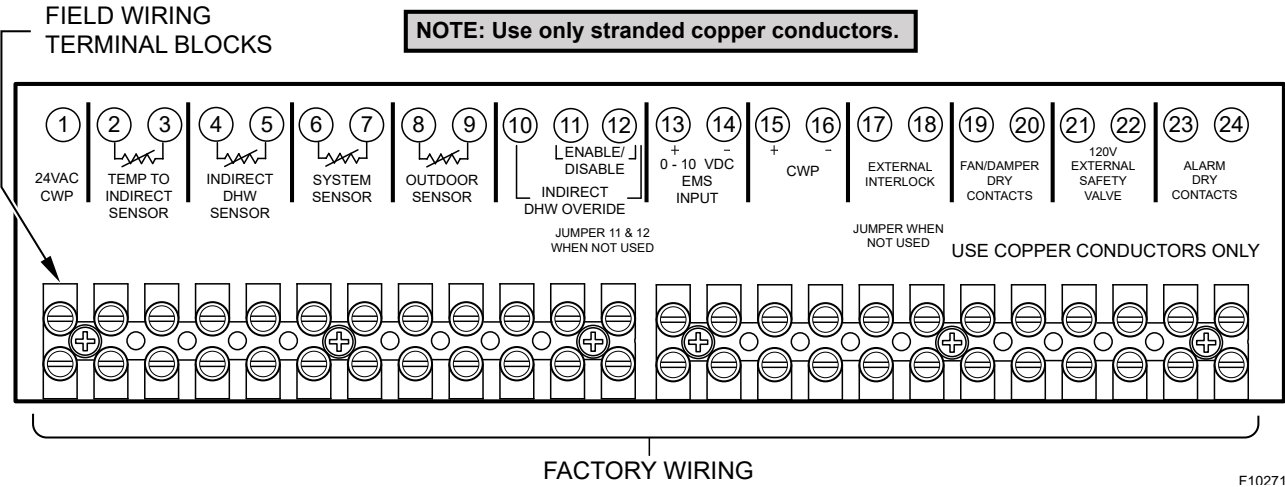

Figure 34. Low-Voltage Field Wiring
2. To enable this remote control function, set DIP switch 5 to the UP position on the PIM. DIP switch 5 Toggles between an EMS (UP) signal or a demand signal from the VERSA (DOWN). DIP switch 2 on the PIM toggles between a Direct Drive (UP) input and a Target Temperature (DOWN) setpoint.
4. Connect an Energy Management system or other auxiliary control signal to the terminals marked 0-10V (+/-) on the field wiring terminals. See **Figure 34**. Caution should be used to ensure that the +0/-10V connection does not create a short to ground.
Connect the Enable/Disable (terminals 11, 12) wiring to the field wiring terminals as shown in **Figure 34** and in place of the factory installed jumper. Alternately, any dry contact closure (including a remote thermostat) across these terminals will enable the XVersL boiler to run.
1. When using a System Sensor, connect the sensor wires to the terminals marked (6, 7) SYSTEM SENSOR. See **Figure 34**.
1. If using an Outdoor Sensor, connect the sensor wires to the terminals (8 and 9) marked OUTDOOR SENSOR. See **Figure 34**.
Connect the indirect tank sensor to the terminals (4 and 5) marked INDIRECT DHW SENSOR. See **Figure 34**. Caution should be used to ensure neither of these terminals becomes connected to ground. When using an indirect DHW Sensor to control tank temperature, contact closure is required across the indirect override connections for proper operation.
2. Connect the system supply sensor to terminals 6 and 7 on the field wiring strip located on the Master boiler. See **Figure 34**.
3. Connect the Outdoor sensor (if used) to terminals 8 and 9 on the field wiring strip located on the Master boiler. See **Figure 34**.
4. Connect the Enable/Disable wiring to terminals 11 and 12 on the field wiring strip located on the Master boiler. This connection must be provided through dry contacts closure. See **Figure 34**. Applying 24VAC to these terminals will result in blowing the fuse on PIM.
The Alarm Contacts are 3A rated dry contacts on a normally-open relay that close during fault or lockout conditions, and the maximum voltage across the contacts is 30 VAC or 30 VDC. See the Field Wiring as shown in **Figure 34**.